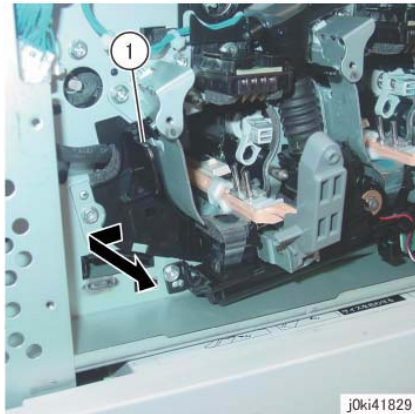

Figure 8 Remove the Plate
- Remove the Plate. (Figure 8)